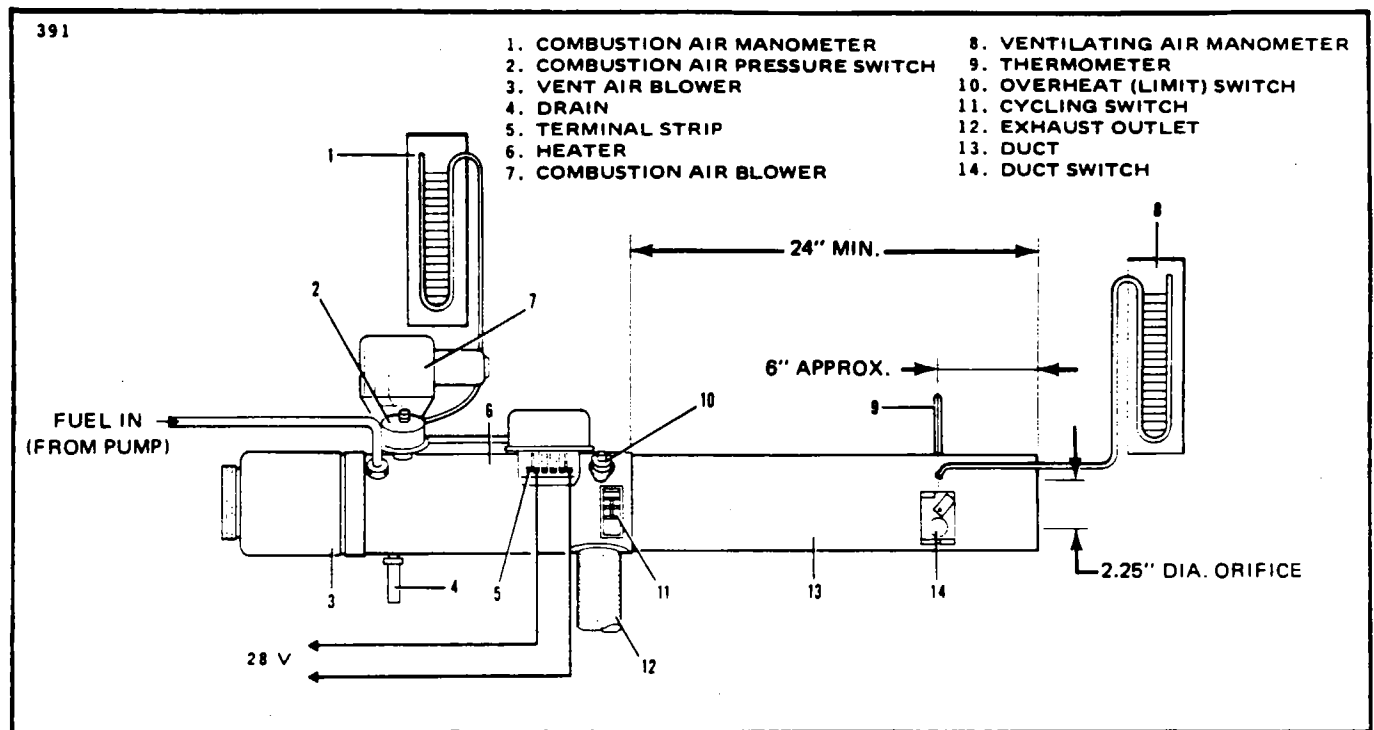

Figure 13-19. Suggested Setup for Heater Operation Test
13-49. EQUIPMENT REQUIRED. (Refer to Figure 13-19.)
- f. A piece of duct to be attached to the downstream end of the heater. It should have a minimum length of 24 inches and the same diameter as the heater being tested. A 2.25 inch diameter orifice should be centrally located at the outlet end. An aperture should be provided for the thermometer and duct switch and a static tap should be attached as shown in Figure 13-19.
13-50. OPERATIONAL TEST. (Refer to Figures 13-19 or 13-20.)
- a. Connect the heater to the test setup as shown in Figure 13-19. Make sure the combustion air blower is mounted securely and that the heater is clamped to its supporting stand.
- b. Insert the duct switch in the sheet metal extension tube at the location shown in Figure 13-19.